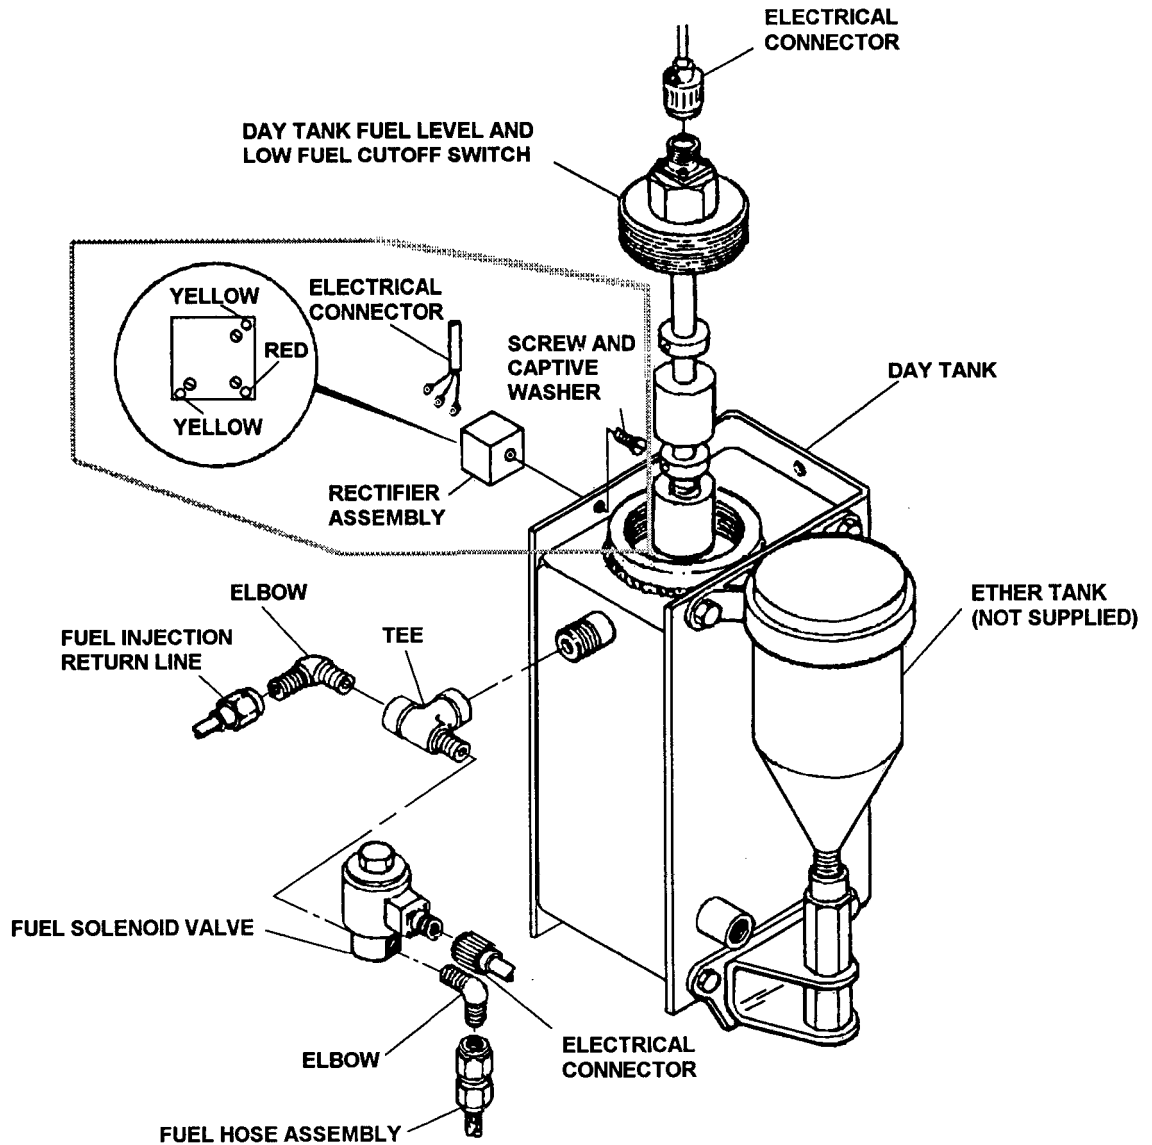

Figure 4-13. Day Tank Fuel Level, Low Fuel Cutoff Switch, Fuel Solenoid Valve and Rectifier Assembly, Removal and Installation
(1) Disconnect electrical connector (Figure 4-13).
(2) Unscrew fuel level and low fuel cutoff switch from day tank.
- (1) Screw day tank fuel level and low fuel cutoff switch onto day tank (Figure 4-13).
- (2) Reconnect electrical connector.
- (1) Disconnect fuel supply hose, electrical connector and injector return line (Figure 4-13).
- (2) Unscrew tee from day tank assembly.
- (3) Remove elbows and tee from fuel solenoid valve.
- (4) Disconnect electrical connector from rectifier assembly.
- (5) Remove screw and captive washer and remove rectifier assembly.
- (3) If day tank does not refill, check that fuel transfer pumps and day tank fuel level and low fuel cutoff switch and interconnecting wire harnesses are operational.
- (4) If fuel transfer pumps and day tank fuel level and low fuel cutoff switch are operational, fuel solenoid valve is defective and must be replaced.
- (5) Check the diodes in the rectifier assembly by placing the positive lead of an ohmmeter on the red coded terminal and the negative lead on one of the yellow coded terminals (Figure 4-13). The ohmmeter should indicate a low resistance.
- (6) Reverse the ohmmeter leads. The ohmmeter should read a high resistance (not infinity).
- (7) Perform the checks in paragraphs (5) and (6) above using the opposite yellow coded terminal.
- (1) Install screw and captive washer and install rectifier assembly (Figure 4-13).
- (2) Reconnect electrical connector to rectifier assembly.
- (3) Install elbows and tee to fuel solenoid valve.
- (4) Screw tee onto daytank assembly.
- (5) Reconnect fuel supply hose, electrical connector, and injector return line.